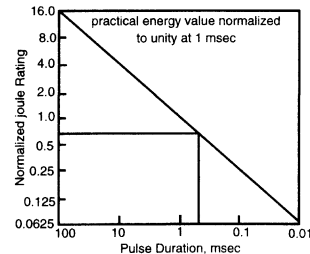

Figure 4
2. Calculate the energy in joules contained in the transient and compare it to the maximum energy rating of the transient suppressor. The energy in the transient, of course, depends on its wave shape, as shown in Figure 3. The amount of energy a given transient suppressor can handle, on the other hand, depends on its energy rating and the duration of the pulse, as shown in Figure 4. In this example, the waveform has an exponential shape with a 20-Amp peak current and a 0.5 millisecond half-peak-power point. Using these data, the energy calculations are as follows: